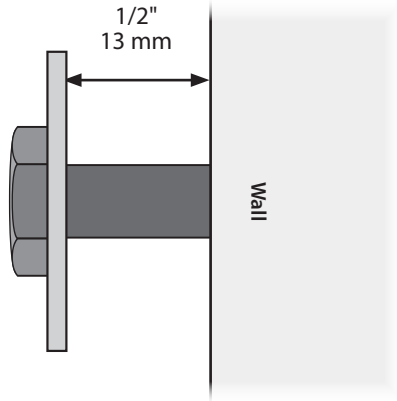

FIG. 4
Place washers onto each fastener and thread the fasteners into all holes, leaving at least 1/2" outside of the hole to fit the Wall Bracket (F) [FIG. 4].